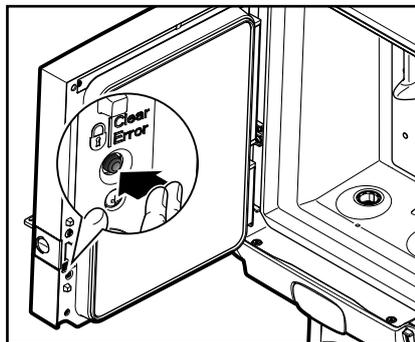

Fig. 22
2. Press the LOCK/Clear-Error switch to block the drink delivery (fig. 22).
3. To unlock the dispenser, press the LOCK/Clear-Error switch again to enable drink delivery (fig. 22).